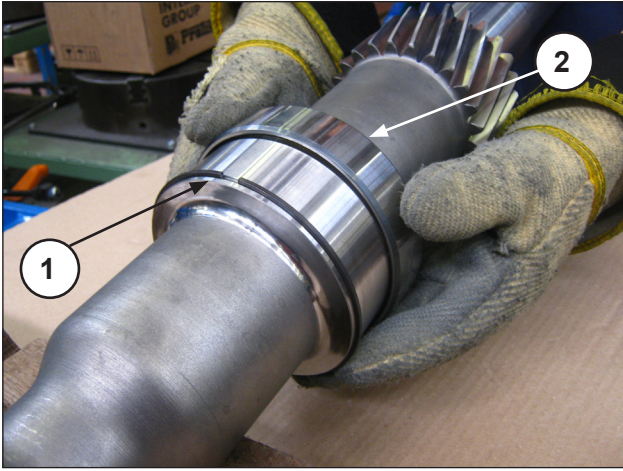

Fig. 78
Install the stop ring and the internal ring, preheating it, of the needle bearing (pos. ①, pos. ② Fig. 78) on the PTO shafts $r=3.46$ and $r=4.23$.